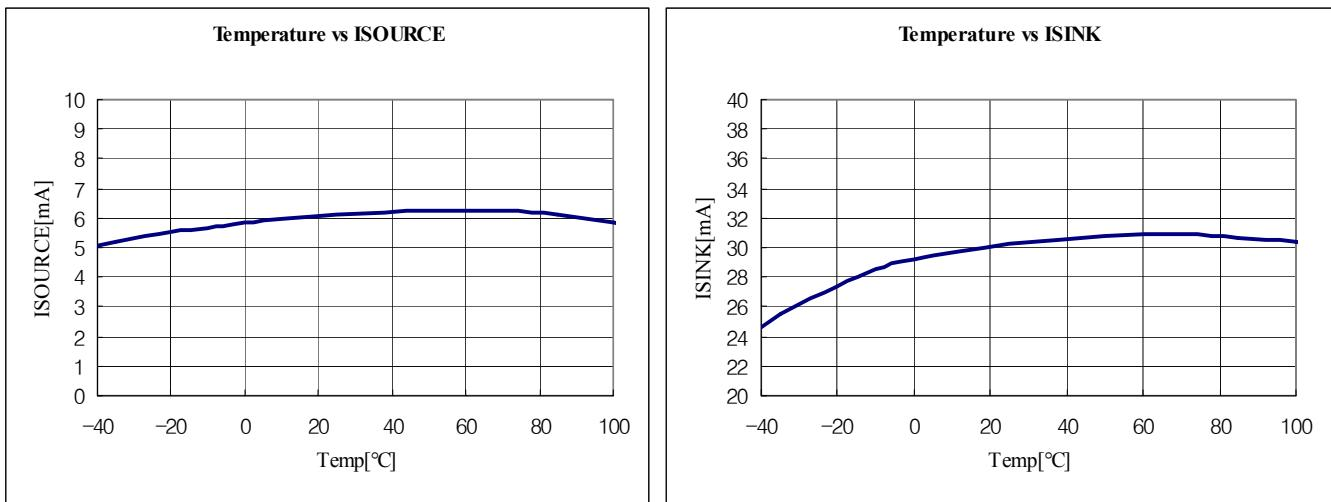

**Figure 4. Channel 4 Spindle Driver**
- When the CAPA(pin3) is low level, the CAPA (pin25) is opened in Figure. 4.
- The voltage, VREF, is the external reference voltage given by the bias voltage of the pin 26 in Figure. 4.